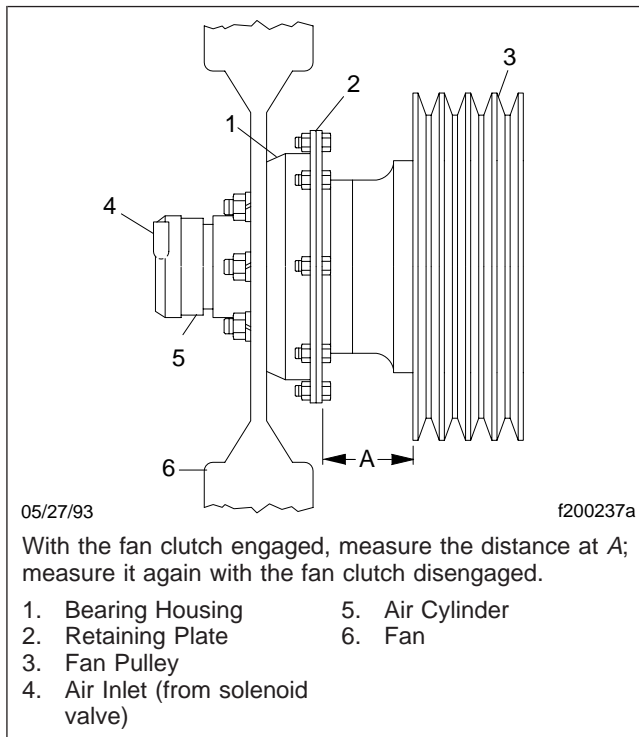

Fig. 7, Kysor K22RA Fan Clutch Lining Wear Checking
2. Measure the distance from the back surface of the fan clutch retaining plate to the forward-most edge of the fan belt pulley. See Fig. 7, Ref. A.